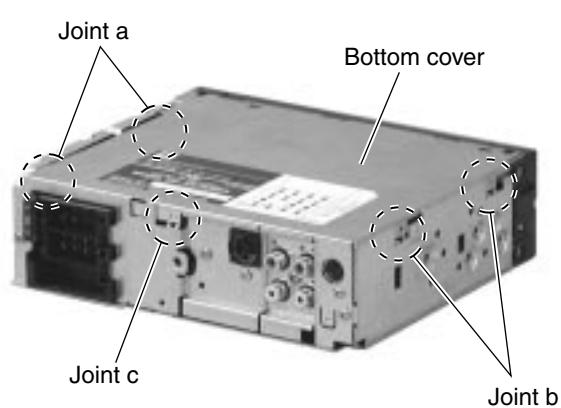

Fig. 2
(See Fig.2,3)
2. To release joint **a**, turn and detach the reinforce bracket from the side bracket assembly as shown in Fig.2